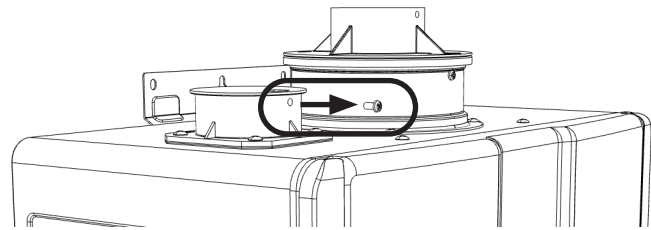

Figure 42
1. Remove and discard screw from combustion air vent connection (Figure 42).